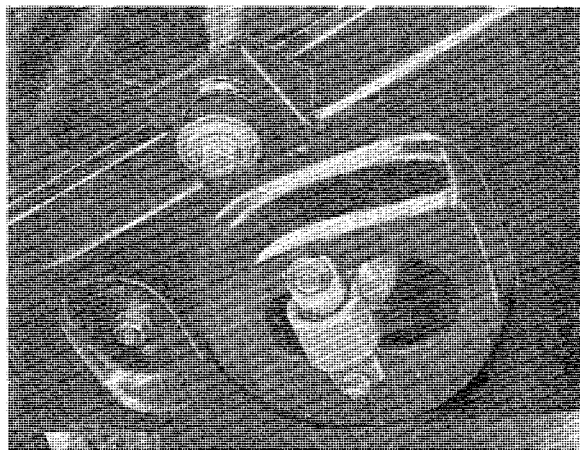

Fig. 7-10. Lower attachment, front shock absorber
The lower attachment (Fig. 7-10) consists of an eyelet provided with a rubber bushing, which cannot be dismantled and a piece of tubular piping, the flattened ends of which are screwed to the bottom side of the lower control arm.
2. Remove the two lower attaching screws (Fig. 7-10) on the underside of the lower control arm, and take down the shock absorber.
3. Install the washer (7), the spacer sleeve (2) and the rubber bushing (1).
5. Install the upper rubber bushing (6), the washer (3) and the nut. Tighten the nut until it makes firm contact with the spacer sleeve.